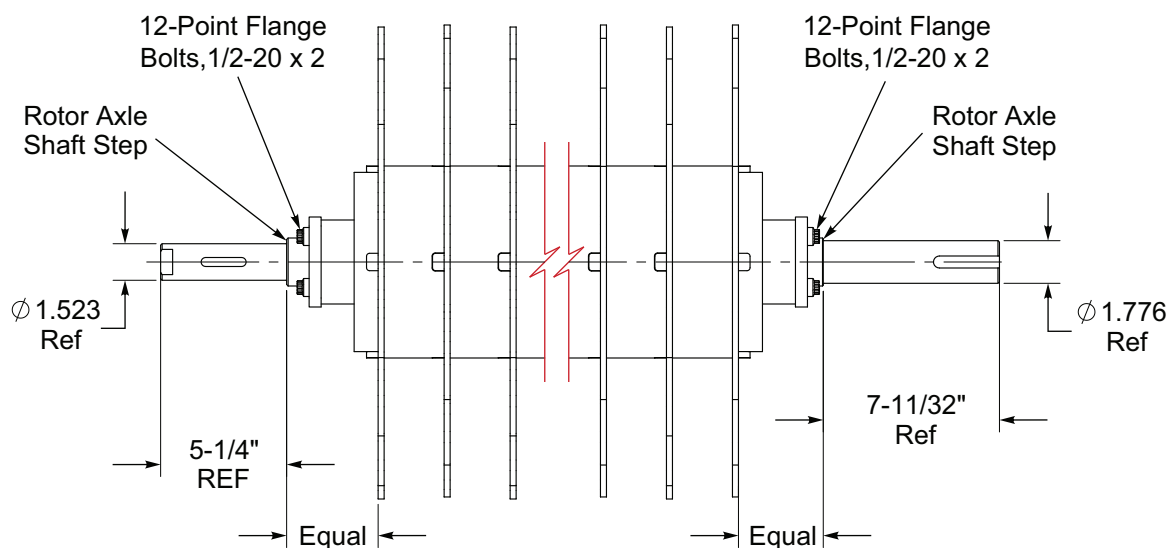

Figure 4-8: Drive Rotor
Check Rotors for worn, broken or bent Rotor Blades and replace per "**Rotor Blade Replacement Procedure on Page 4-8.**" When replacing Rotor Blades, the distance on both ends from the Blade to the Rotor Axle Shaft Step should be equal. **See Figures 4-8 and 4-9.**
17. Repair Drive Rotor as necessary. **See Figure 4-8.**